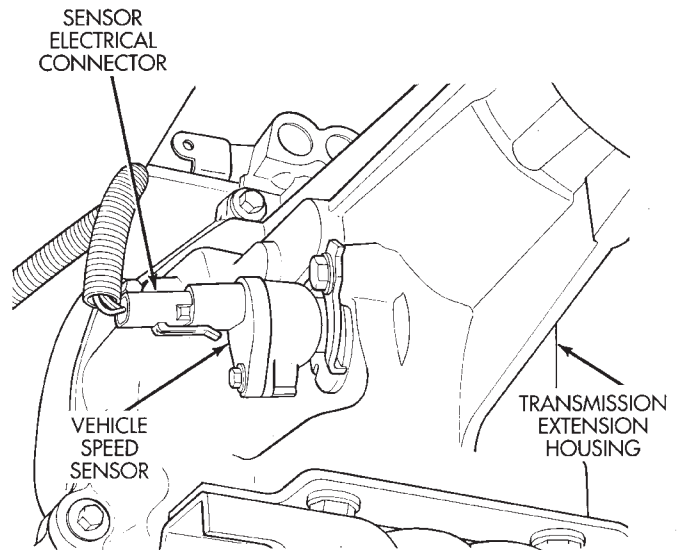
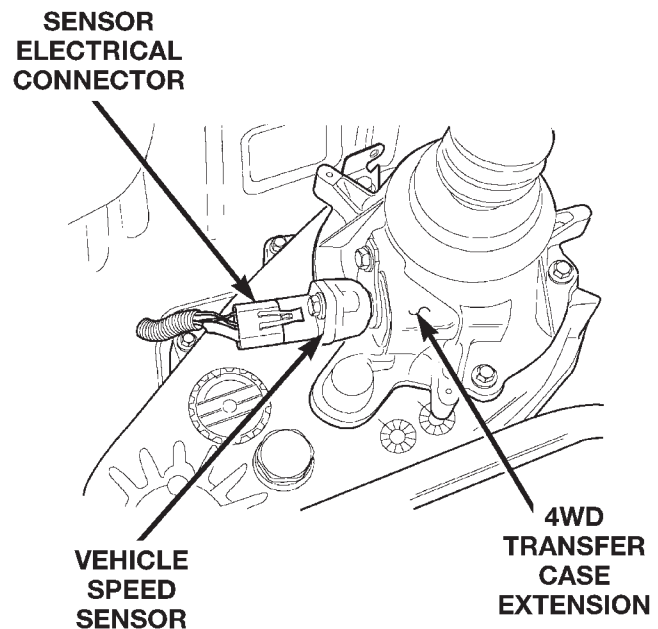

Fig. 43 Vehicle Speed Sensor—2WD—Typical
Fig. 44 Vehicle Speed Sensor—4WD—Typical
(23) Inspect for exhaust system restrictions such as pinched exhaust pipes, collapsed muffler or plugged catalytic converter.
(24) If equipped with automatic transmission, verify that electrical harness is firmly connected to park/neutral switch. Refer to Automatic Transmission section of Group 21.
(25) Verify that the electrical harness connector is firmly connected to the vehicle speed sensor (Fig. 43) or (Fig. 44).
(26) Verify that fuel pump/gauge sender unit wire connector is firmly connected to harness connector.
(27) Inspect fuel hoses at fuel pump/gauge sender unit for cracks or leaks.